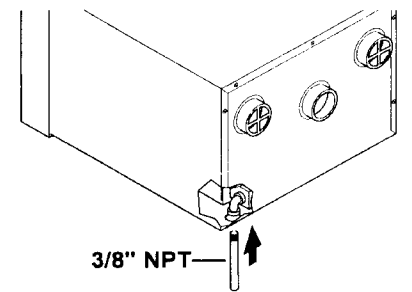

Figure 14 - Inserting Pipe through Knockout Hole
11. Run 3/8" pipe or nipple through knockout hole. Connect 3/8" pipe or nipple to manifold elbow (see Figure 14). See *Providing Gas Piping to Furnace* for correct gas pipe installation.
**CAUTION:** Lightly apply pipe joint sealant to male threads before connecting. Use pipe joint sealant that is resistant to liquid petroleum (LP) gas.